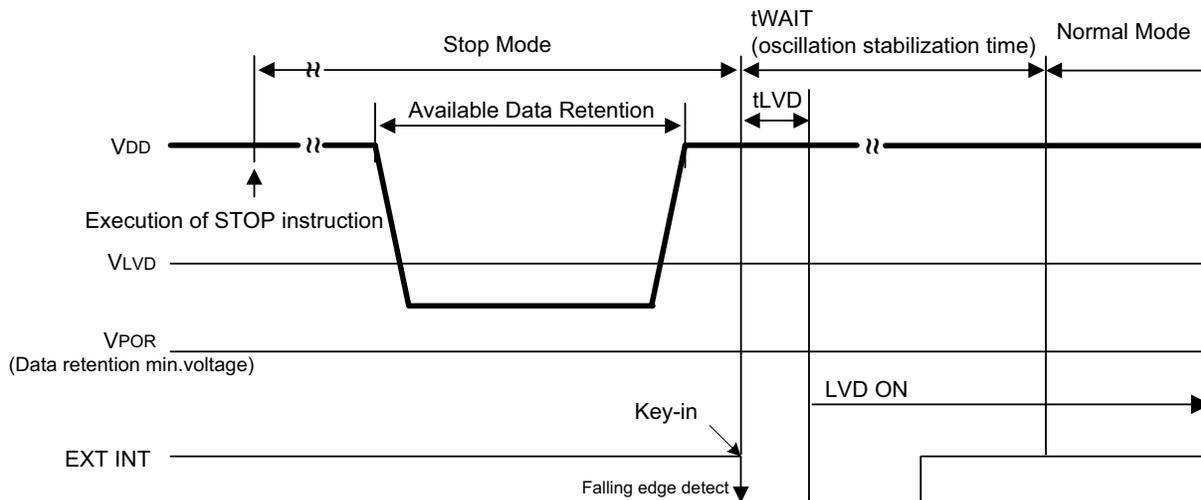

Figure 93. Stop Mode to Normal Mode Timing Diagram, #1 of 2
- Stop Mode to Normal Mode Timing Diagrams – see Figures 93 and 94 on page 296